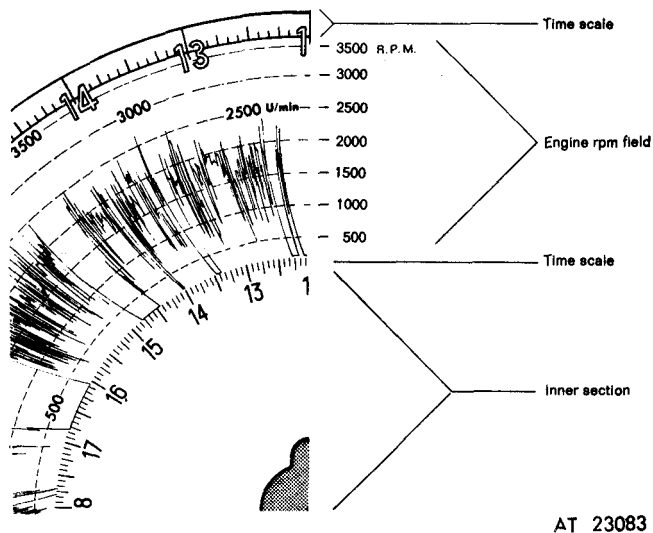

Figure 2-281. Engine rpm recording.
(6) *Engine rpm.* In addition to speed and traveling and stationary periods, engine rpm is also recorded. It is recorded simultaneously on the reverse side of this chart. The recording field for engine rpm is also divided up by concentric circles. This enables the viewer to read off accurately the rpm reached at a given time. Various rpm ranges are available. The recording is not made in a straight line, but in an arc. The time graduation is related to the base line and the maximum rpm measuring range. Unlike the speed diagram, the base line is recorded immediately after inserting the disc and not only when cover is closed (fig. 2-281).